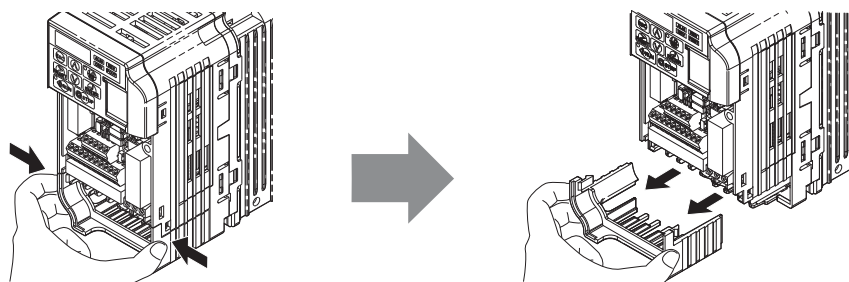
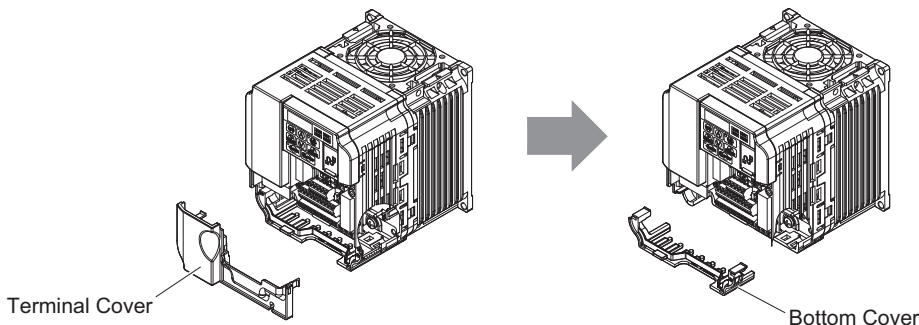

Figure 5 Remove the Bottom Cover on an IP20/Open-Chassis Drive (Models CIMR-V□BA0001B to BA0003B and 2A0001B to 2A0006B)
Figure 6 Remove the Terminal Cover and Bottom Cover on an IP20/Open-Chassis Drive (Models CIMR-V□BA0006B to BA0018B; 2A0008B to 2A0069B; 4A0001B to 4A0038B)
3. For IP20/Open-Chassis models CIMR-V□□A□□□□B, remove the bottom cover of the drive by applying pressure to the tabs on each side of the bottom cover. Pull the bottom cover away from the drive while pushing in on the tabs to release the cover from the drive. Refer to **Figure 5** for details. Refer to **Figure 6** for drive models CIMR-V□BA0006B to BA0018B, 2A0008B to 2A0069B, and 4A0001B to 4A0038B, which require removing the terminal cover prior to removing the bottom cover.